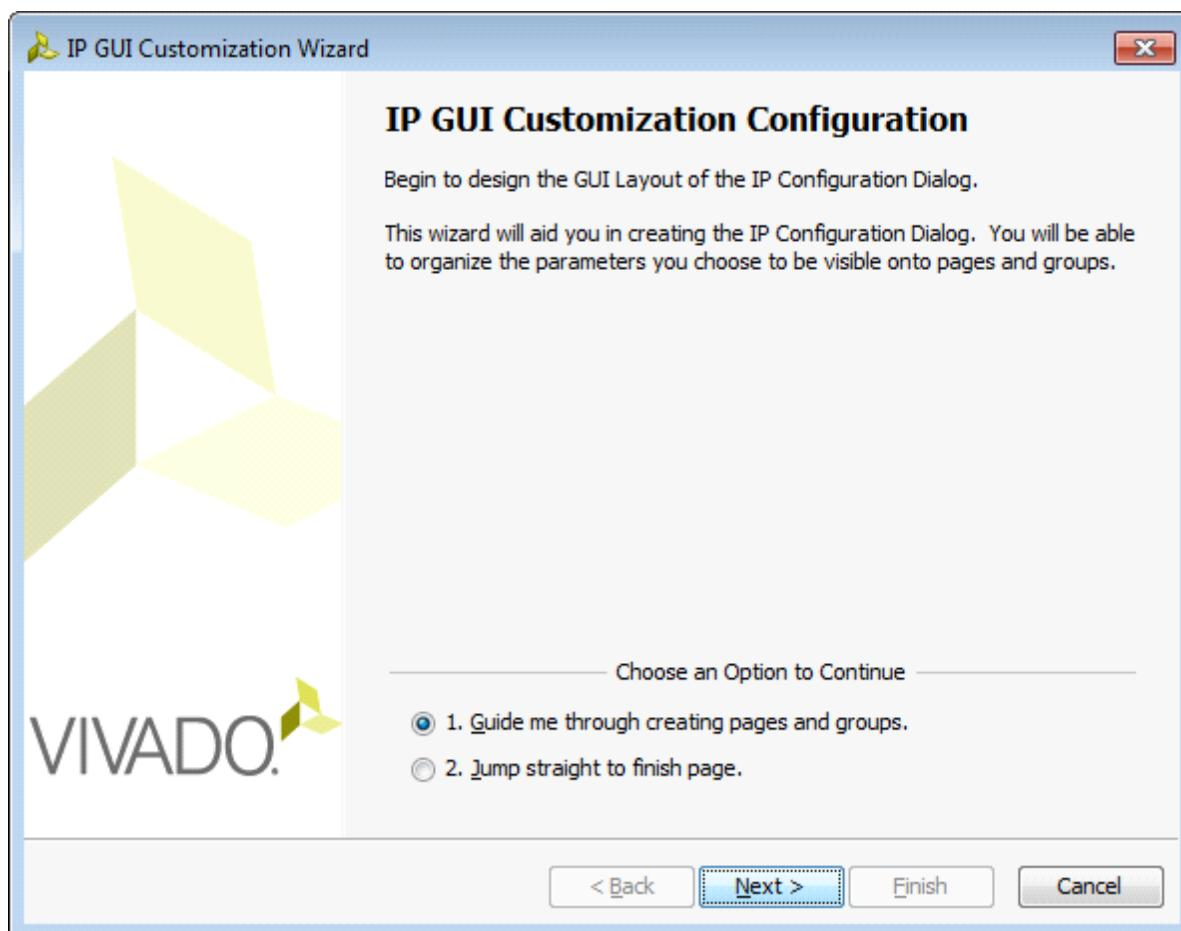

Figure 8-84: IP GUI Customization Wizard
1. Click **wizard** to open the IP GUI Customization wizard dialog box, which is shown in Figure 8-84, page 136.